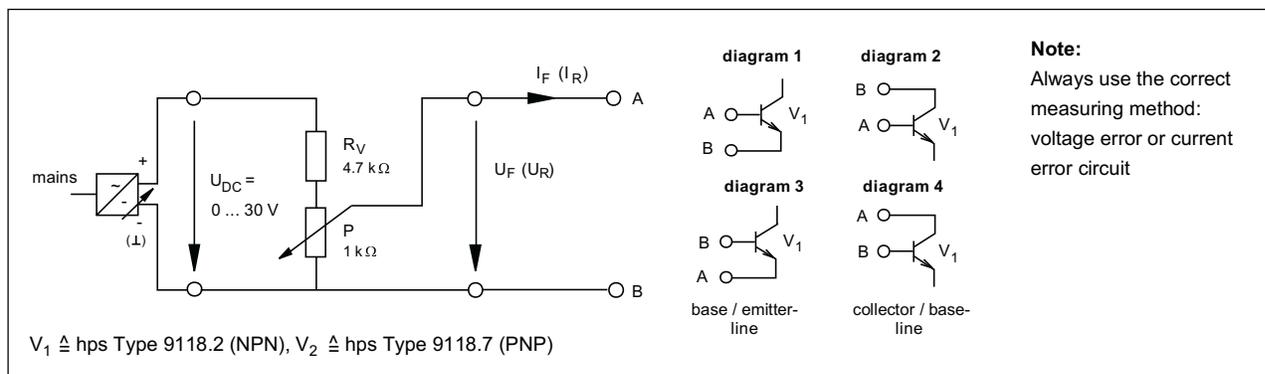

Fig. 4.1.2.1
- Set up the circuit as shown in Fig. 4.1.2.1 (diagram 1). Using potentiometer P in conjunction with the multimeter, set the voltages  $U_F$  consecutively according to Table 4.1.2.1. Measure each corresponding current  $I_F$  and enter the values in Table 4.1.2.1. On the diagram (Fig. 4.1.2.2), plot a graph showing the dependence of the current  $I_F$  on the voltage  $U_F$ .
- Set up the circuit as shown in Fig. 4.1.2.1 (diagram 2). Set the voltages  $U_F$  consecutively according to Table 4.1.2.3. Measure each corresponding current  $I_F$  and enter the values in Table 4.1.2.3. On the diagram (Fig. 4.1.2.3), plot a graph showing the dependence of the current  $I_F$  on the voltage  $U_F$ .
- For the next set of measurements, remove potentiometer P from the circuit (Fig. 4.1.2.1) and set the voltage directly on the power supply unit. Resistor  $R_V$  should remain connected for safety reasons.
- Set up the circuit as shown in Fig. 4.1.2.1 (diagram 3). Set the voltages  $U_R$  consecutively according to Table 4.1.2.2. Measure each corresponding current  $I_F$  and enter the values in Table 4.1.2.2. On the diagram (Fig. 4.1.2.2), plot a graph showing the dependence of the current  $I_R$  on the voltage  $U_R$ .